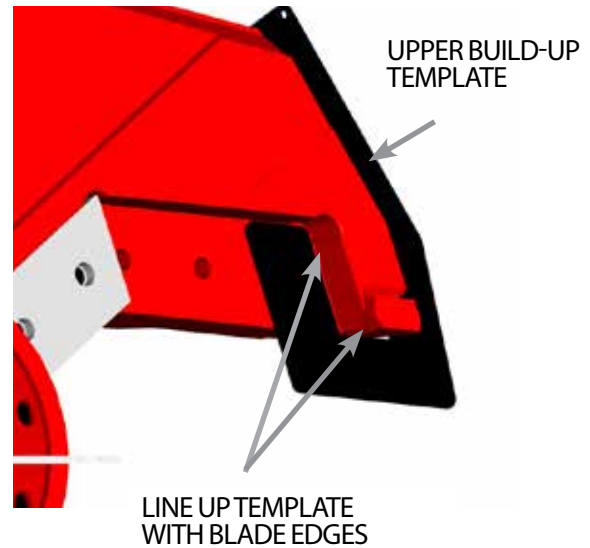

FIGURE 5-28
3. Use the build-up template provided by LaBounty to determine the amount of build-up needed on the front and bottom surfaces of the tip. Line up the template with the edges of the cutting blade and check the wear (see Figure 5-28 on page 31).